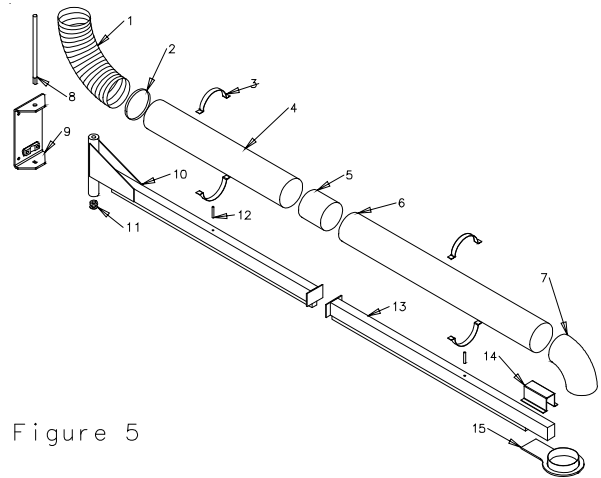

Figure 5
There will be assembly required for the boom arm and the flex arm (if purchased with boom). Lay out the enclosed components and compare to the list and to Figure 5, to be sure that you have received all the correct components. The boom arm components are in 2 long boxes. Remove the components and place in order as shown in Figure 5. The flex arm (if purchased with boom) is packaged in a shorter box, refer to page 6 & 7 for the parts list and see Figure 1 for the arm layout. **Note:** Mounting plate not included.
6. Install the clamp profile to the exhaust arm mounting support using the 6 bolts, nuts, and tooth washers. Slip this assembly over the end of the boom end with the angle flange facing up. See figure 5. Slip over until the arm mounting support hits the groove channel. Tighten this assembly.